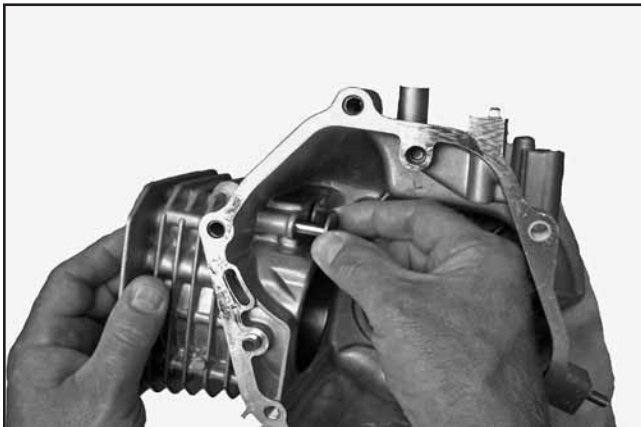

Figure 10-7. Installing Tappets.
1. Install the INTAKE and the EXHAUST tappets into their respective positions, as previously marked. See Figure 10-7.